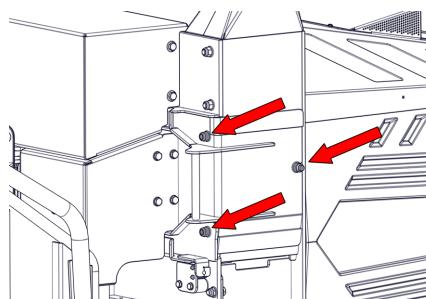

Figure 22 - Rotor Housing Access Hatch
3. Remove the three nuts and washers retaining the rotor housing blade access hatch and remove the hatch (Figure 22).